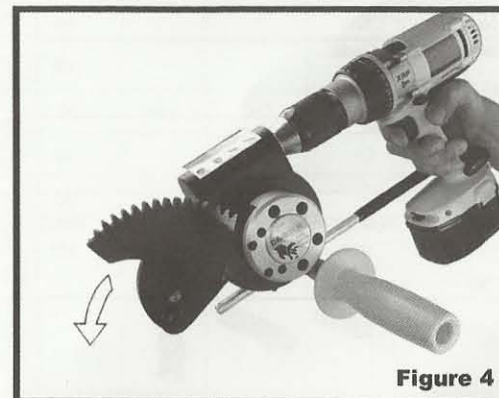

Figure 4
**STEP 4:** Activate the drill trigger switch to open the moving blade(Figure 4).